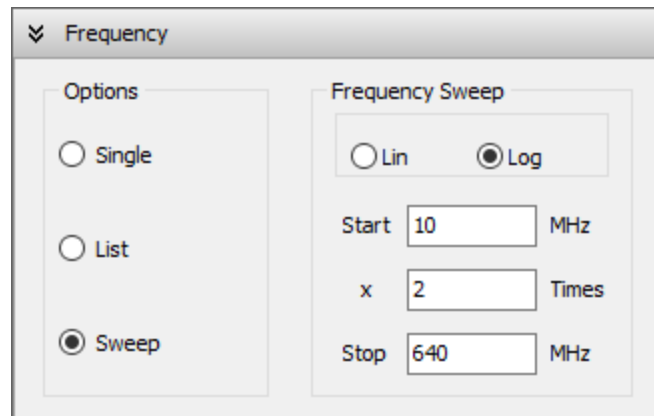

Fig. 4: Frequency panel in the Setup tab configured for a logarithmic frequency sweep.
- For a *logarithmic sweep*, enter the start and stop frequencies, along with a multiplication factor (**Fig. 4**).